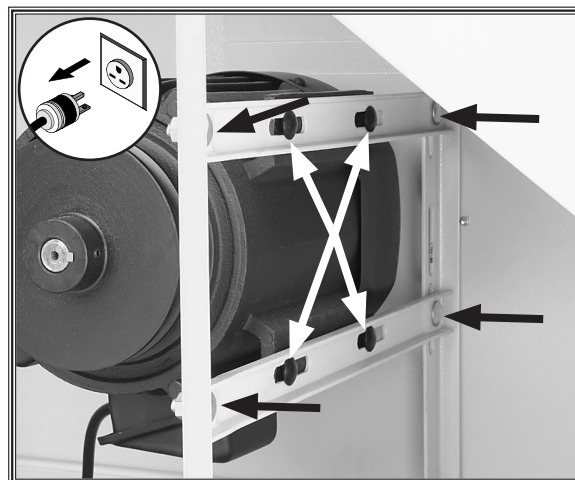

Figure 64. Motor bracket bolts (black arrows) and motor mount bolts (white arrows).
3. Loosen the motor bracket bolts shown by the black arrows in **Figure 64**.